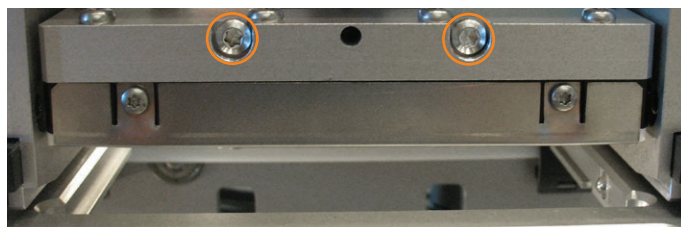

Figure 47. The two screws attaching the pressure head to the pressure unit.
8. Remove the two screws holding the pressure head to the pressure unit; see Figure 47.